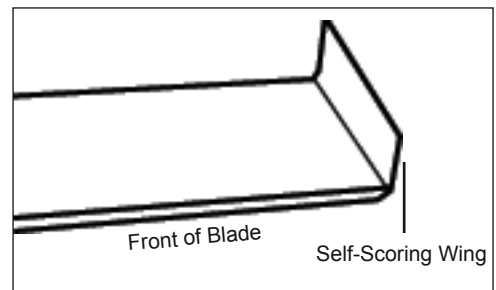

FIG. 10
**Self-Scoring Blade Sharpening (Figure 10):** It is important to keep the "wings" on these self-scoring blades sharp. Use a file on the edge; sharpen the flat part of the blade as described above.